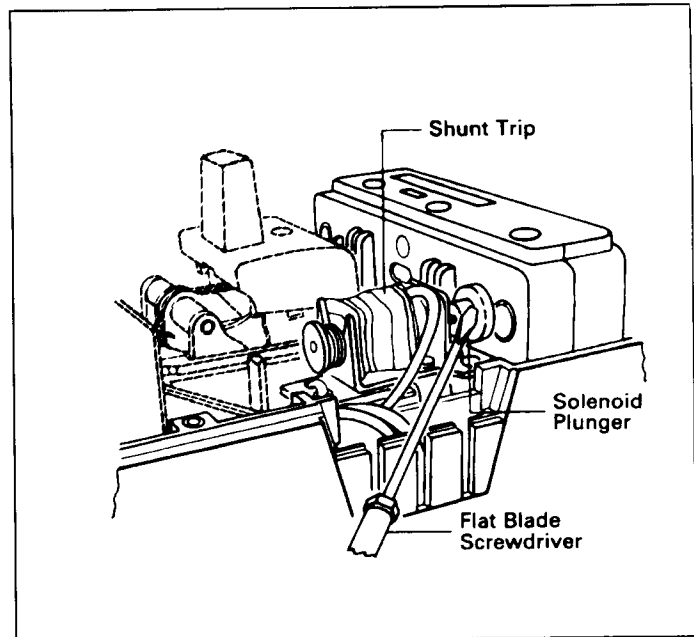

Fig. 2-5. Screwdriver Depressing Shunt Trip Solenoid Plunger
- b. Using a small flat-blade screwdriver, depress solenoid plunger (Fig. 2-5). Circuit breaker should move to trip position.